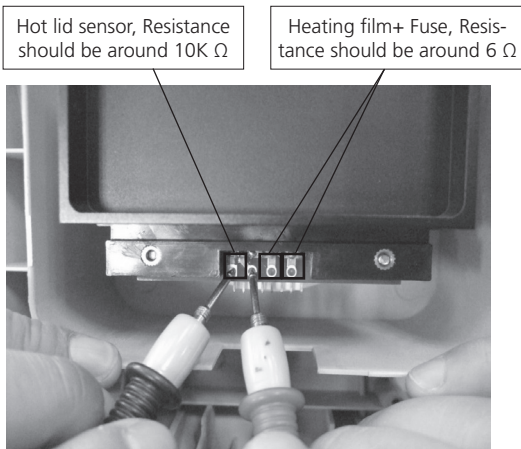

Fig.16
2.4.5 Remove the connector. Measure the resistance, as Fig.16. If the value is out of range, need to repair.